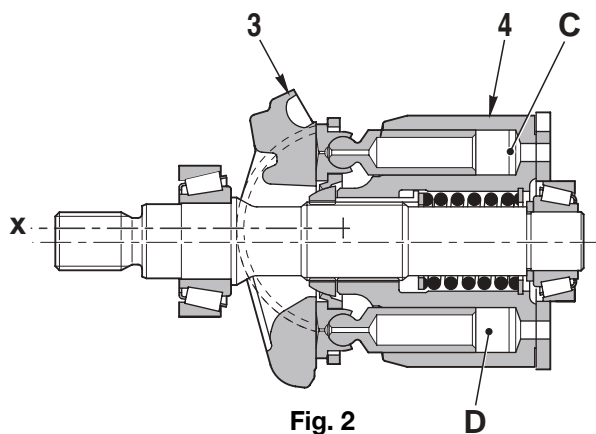

Fig. 2
- 3 - When the axis X of the swash plate (3) is parallel to the axis of the cylinder block (4) (swash plate angle « $\alpha$ »=0), the difference between the volumes C and D inside the cylinder block (6) is zero and no oil is pumped (Fig. 2).